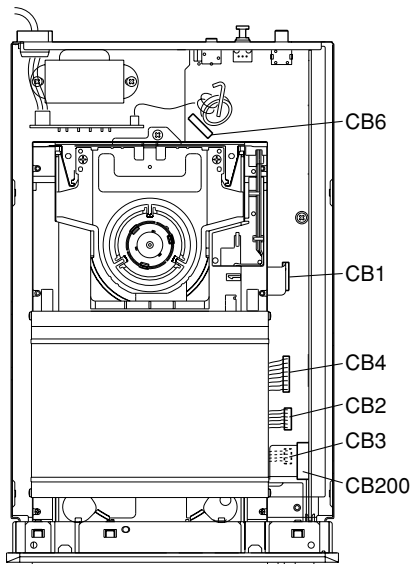

Fig. 2
- Disconnect cable from Connector (CB200) in Fig. 2.
- Disconnect cables from Connectors (CB1, CB2, CB3 and CB4) in Fig. 2.
2. Disconnect cable from Connector (CB6) in Fig. 2.